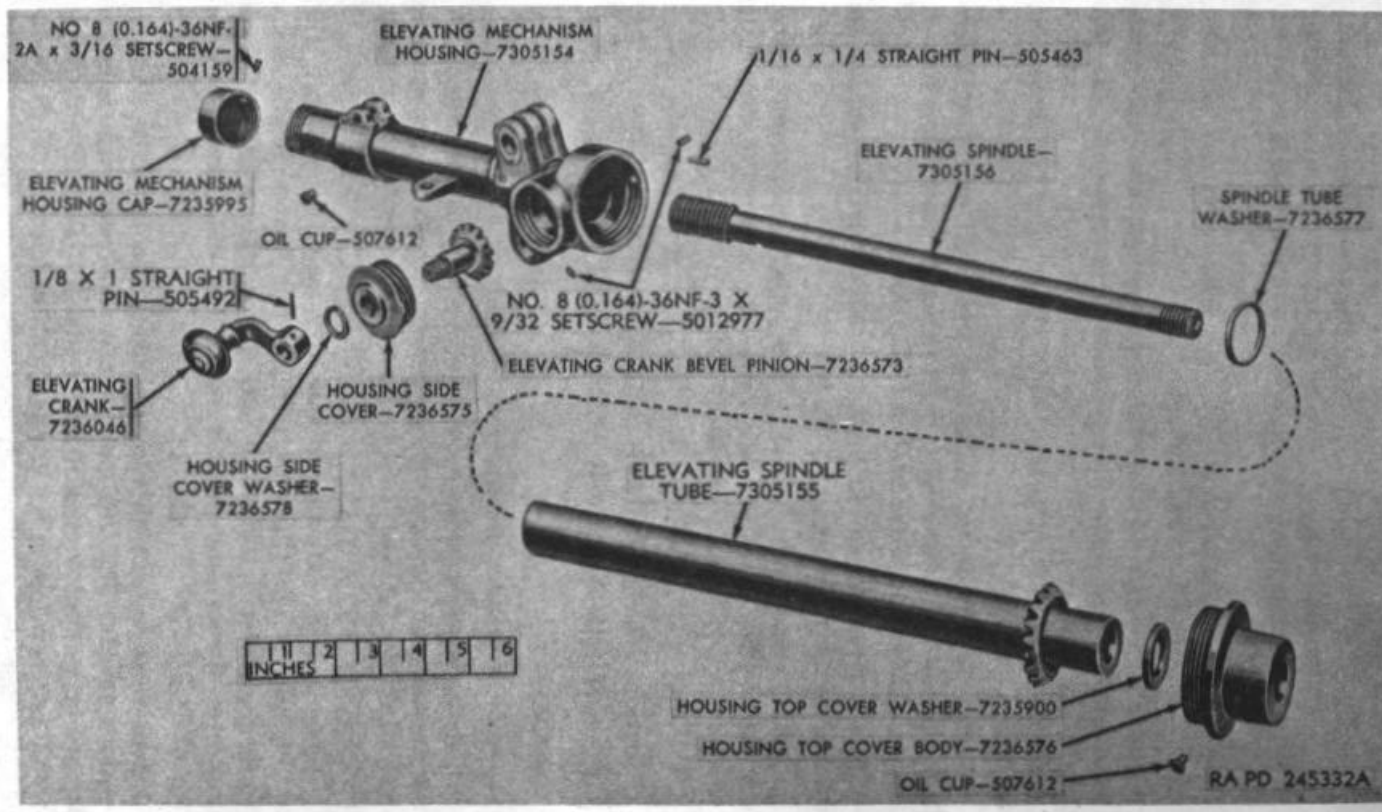

Figure 45. Elevating mechanism assembly-81-mm mortar mounts M23 and M23A1.
b. Remove setscrew which locks top cover body to elevating mechanism housing and unscrew top cover body (fig. 45), using spanner wrench 6128199 (fig. 8). Remove top cover washer from inside of top cover body.
c. Grasp top of elevating spindle and withdraw spindle, with elevating spindle tube (fig. 45) from housing. Screw spindle downward through tube (left-hand thread) and withdraw it through bottom of tube. Remove spindle tube washer (fig. 45) from base of top gear seat in housing.
d. Remove setscrew which locks housing side cover to elevating mechanism housing (fig. 45) and unscrew side cover with assembled parts, using spanner wrench 6128199 (fig. 8). Punch out straight pin and unscrew elevating crank from bevel pinion (left-hand thread), slide side cover off at bevel pinion, and remove housing side cover washer (fig. 45) from interior of cover.
e. Remove setscrew from elevating mechanism housing cap (fig. 45) and unscrew cap from housing.
- a. Screw elevating mechanism housing cap on lower end of elevate ing mechanism housing, aline setscrew holes, and screw in No. 8 (0.164)-36NF-2A x 3/16, setscrew (fig. 45).
- b. Install housing side cover washer and slide housing side cover on shaft of elevating crank bevel pinion (fig. 45), threaded end first. Screw elevating crank onto bevel pinion (left-hand thread), aline pin holes, and drive in 1/8 x 1 straight pin (fig. 45). Screw housing side cover, with elevating crank bevel pinion and elevating crank (fig. 45) into side of elevating mechanism housing, using spanner wrench 6128199 (fig. 8). Aline cover screw holes and screw in No. 8 (0.164)-36NF-3 x 9/32 setscrew (fig. 45).
- c. Insert elevating spindle into lower end of elevating spindle tube (fig. 45), narrower end first, and screw it into tube (left-hand thread) so that lower threads are completely covered. Position spindle tube washer (fig. 45) on top gear seat so that it rests on rim at base of seat, oil grooves up, and key in rim of seat engaged in its slot. Lower the elevating spindle tube (fig. 45) with assembled parts into the housing until the bevel gear on the tube rests on the spindle tube washer and engages the elevating crank bevel pinion. It may be necessary to rotate the tube slightly in order to mesh gear teeth properly.
d. Place housing top cover washer in housing top cover-body, slide cover down over top of elevating spindle, and screw it into top of housing (fig. 45), using spanner wrench 6128199 (fig. 8). Align setscrew holes and screw in the No. 8 (0.164)-36NF-3 x 9/32 setscrew (fig. 45).